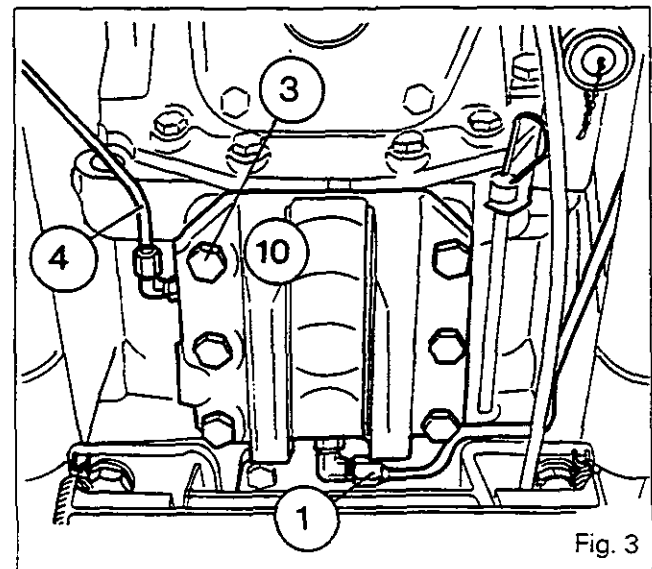

Fig. 3
4. Disconnect the supply tube (1) of the PTO brake (Fig. 3).
5. Disconnect the lubrication tube (4) (Fig. 3).
6. Remove the bolts (3) and the top link support (10) (Fig. 3).
7. Withdraw the pinion (13) and shaft (2) assembly held by the washer (5) and screw /6. Remove the bearing cone (4).
12. Refit the top link support (10). Fit and tighten the bolts (3) to a torque of 130-170 Nm (Fig. 3).
13. Reconnect the supply tube of the PTO brake (1) and the lubrication tube (4) (Fig. 3).
22. Disconnect the supply tube (1) from the PTO brake (Fig. 3).
23. Disconnect the lubrication tube (4) (Fig. 3).
24. Remove the bolts (3) of the top link support (Fig. 3) and detach it.
25. Withdraw the pinion (13) and shaft (2) assembly held by the washer (5) and bolt (6).
46. Fit the cup (8) in the support.
47. Withdraw the pinion (13) and assemble on the shaft (2) with the washer (5) and bolt (6). Tighten to a torque of 50 Nm.
48. Refit the bearing cone (4). Fit the pinion (13) and shaft (2) assembly.
50. Refit the top link support (10). Fit and tighten the bolts (3) to a torque of 130-170 Nm (Fig. 3).
51. Reconnect the supply tube (1) of the PTO brake and the lubrication tube (4) (Fig. 3).